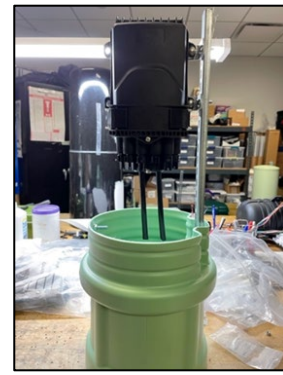

Figure 6
2. Mount the short side of the L brackets to the pedestal stake (Figure 6).